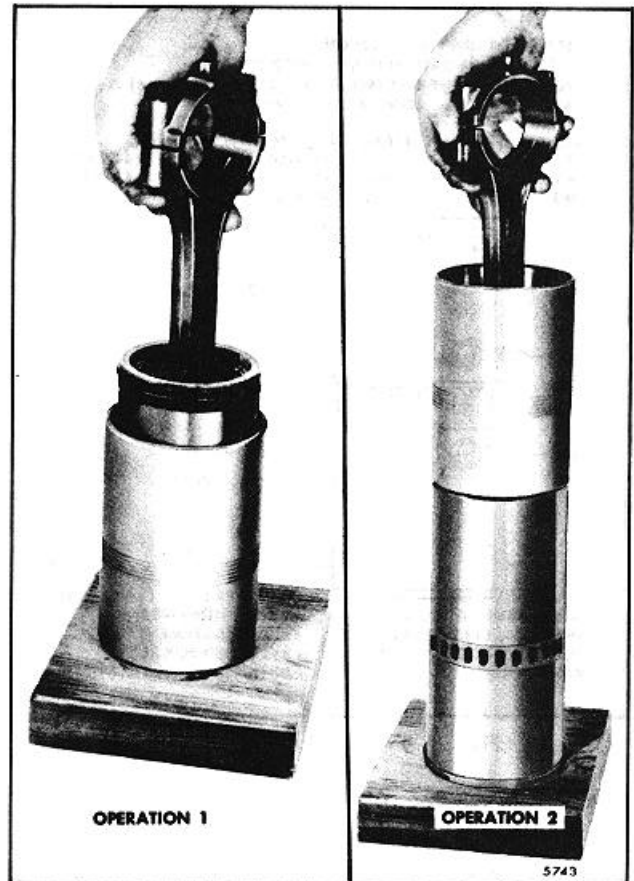

Fig. 12. Installing Piston and Connecting Rod Assembly in Ring Compressor and Cylinder Liner
4. Start the top of the piston straight into the ring compressor. Then push the piston down until it contacts the wood block ("Operation 1" of Fig. 12).
6. Place the ring compressor and the piston and connecting rod assembly on the liner so the numbers on the rod and cap are aligned with the matchmark on the liner ("Operation 2" of Fig. 12).